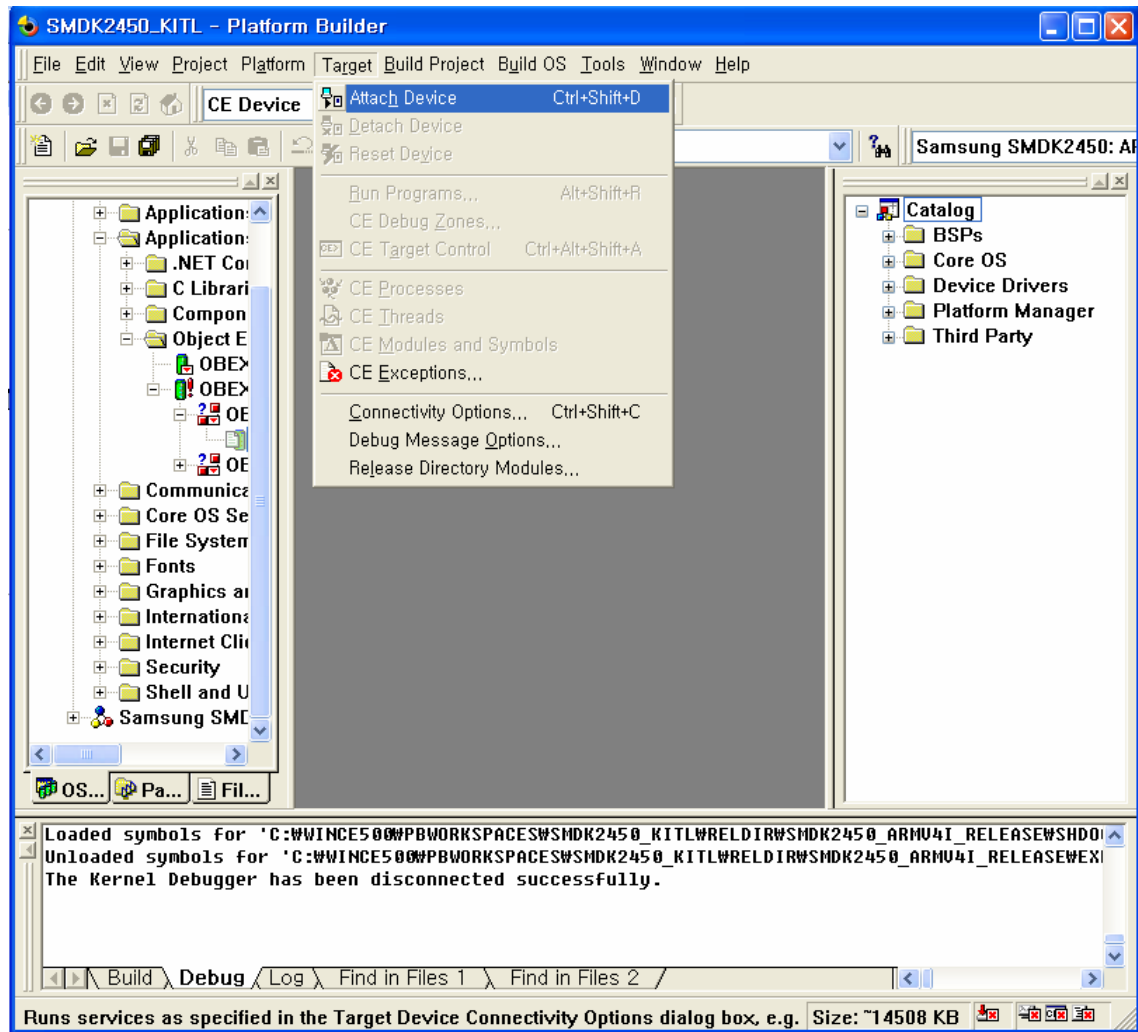

Figure 5-41 Attach Device
9. On the Target menu in Platform Builder window, click Attach Device as shown in figure 5-41.